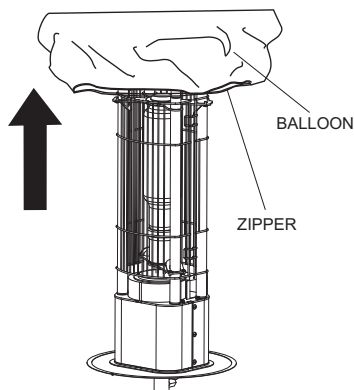

Figure 35. Exposing Balloon
1. Unzip the zipper at the bottom of the balloon and roll the balloon up to expose the lamp. See Figure 35.